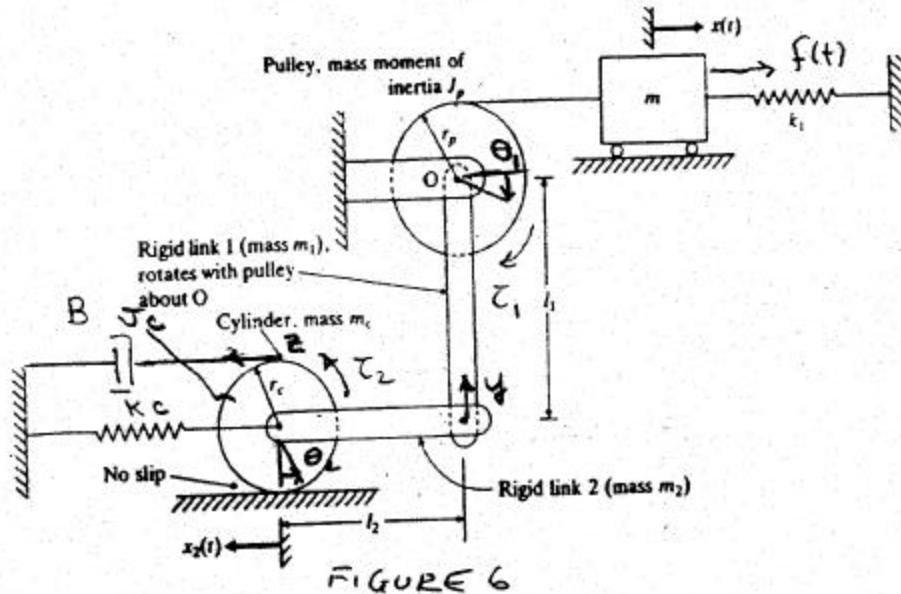

FIGURE 6
3. Consider the system shown in Figure 6. Define a single degree of freedom system in terms of the translational motion, $x(t)$. Use energy arguments to find the equivalent mass, damping constant, stiffness and force for the equivalent single degree of freedom system.